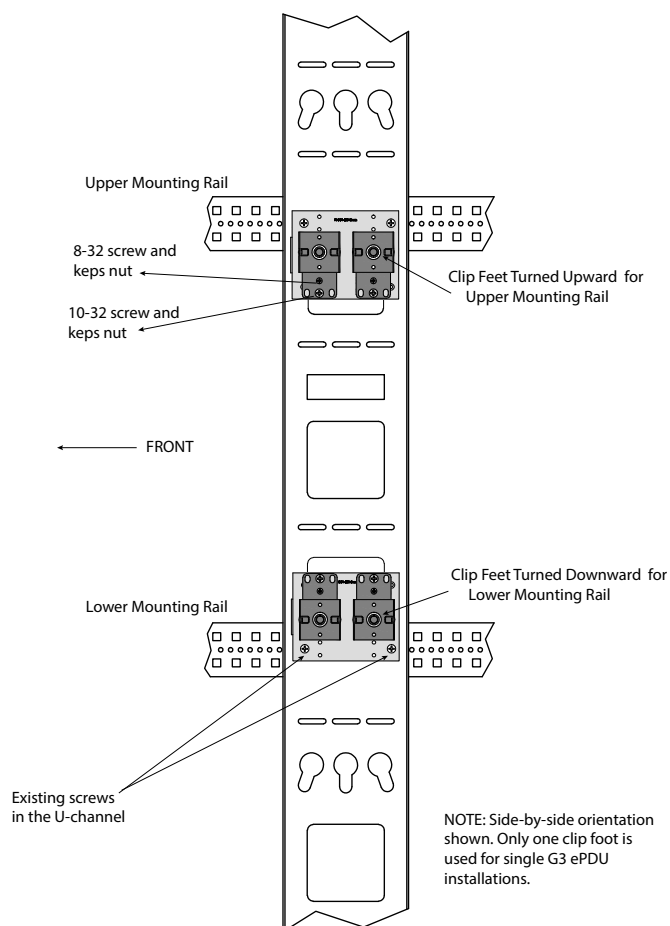

Figure 24. Single or Side-by-Side Inboard
- **One ePDU or Side-by-side inboard.** Outlets facing toward the other side of the rack, go to Figure 24 on page 36.